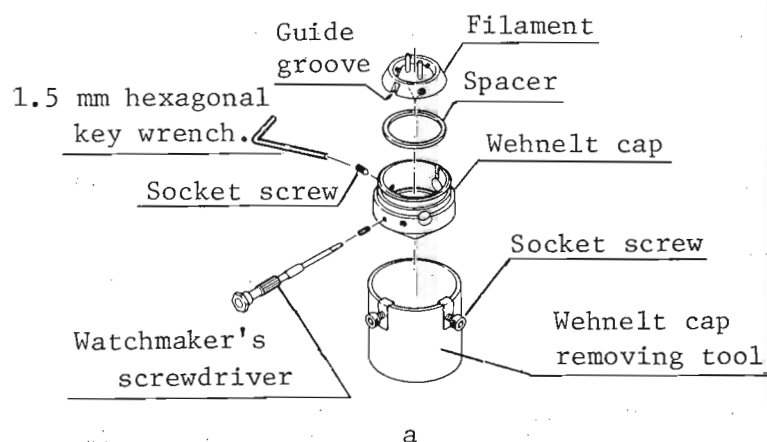

Fig. 5.3
5. Remove the filament by loosening the filament fixing screws (3 pcs.) with the hexagonal key wrench and the setscrew with the screwdriver (Fig. 5.3).